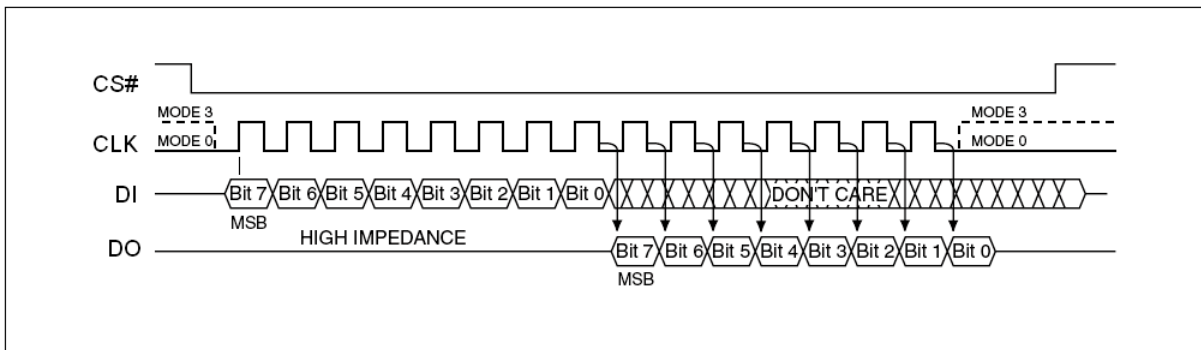

Figure 3. SPI Modes
The EN25QH16B (2A) is accessed through a SPI compatible bus consisting of four signals: Serial Clock (CLK), Chip Select (CS#), Serial Data Input (DI) and Serial Data Output (DO). Both SPI bus operation Modes 0 (0,0) and 3 (1,1) are supported. The primary difference between Mode 0 and Mode 3, as shown in Figure 3, concerns the normal state of the CLK signal when the SPI bus master is in standby and data is not being transferred to the Serial Flash. For Mode 0 the CLK signal is normally low. For Mode 3 the CLK signal is normally high. In either case data input on the DI pin is sampled on the rising edge of the CLK. Data output on the DO pin is clocked out on the falling edge of CLK.